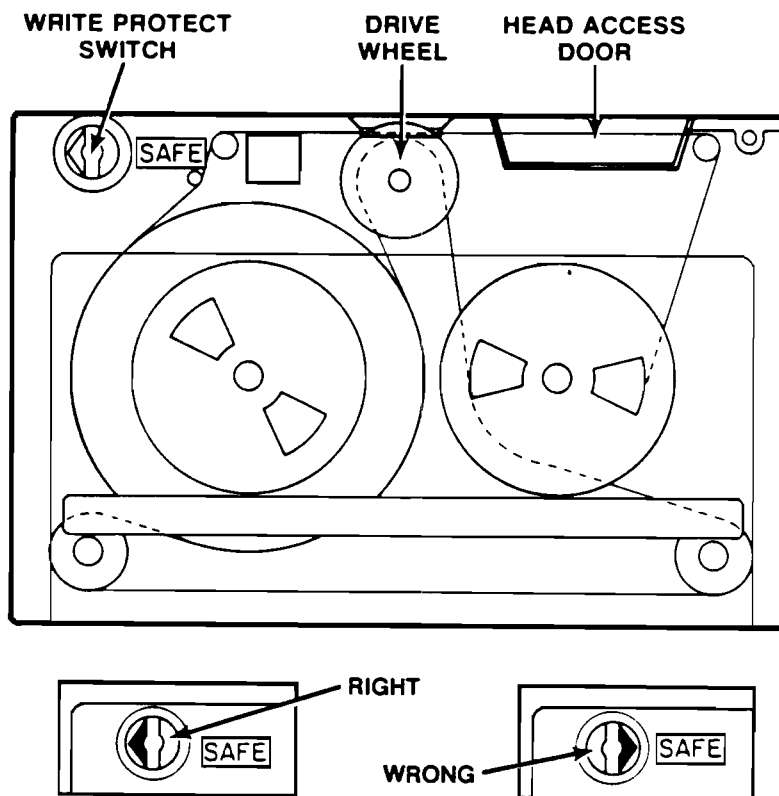

Figure 9-1. Tape Cartridge.
2. Ensure that the COLDLOAD tape is "write-enabled" by assuring that the arrow points away from "SAFE" as indicated in Figure 9-1 below.